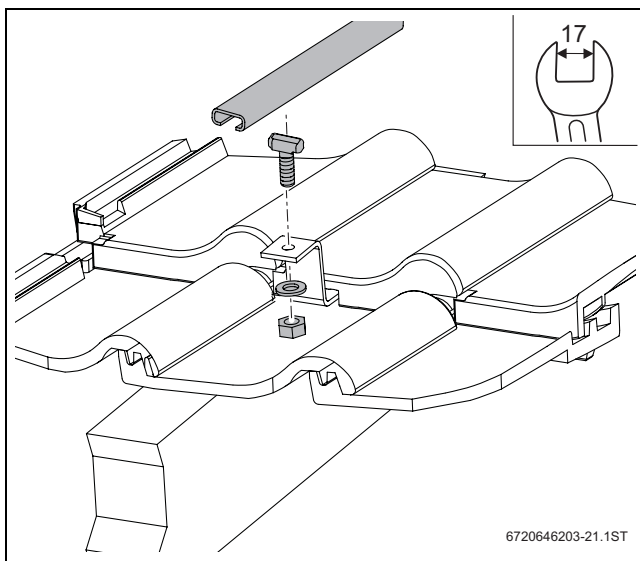

Fig. 26 Installing rails onto mounting brackets
- ▶ Place top and bottom rails on mounting brackets and fit using the hammer-head bolts (→ Fig. 26). Use a SW17 spanner.